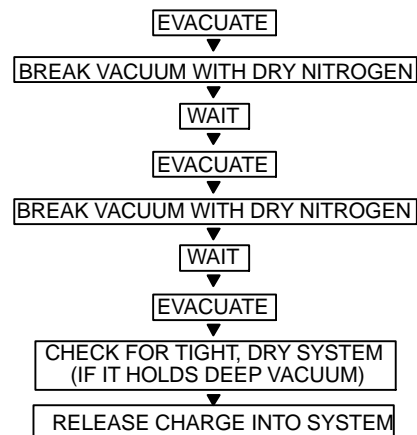

Fig. 13 – Triple Evacuation Method
The triple evacuation method should be used. Refer to Fig. 13 and proceed as follows:
- 5 Repeat this procedure as indicated in Fig. 13. System will then be free of any contaminants and water vapor.